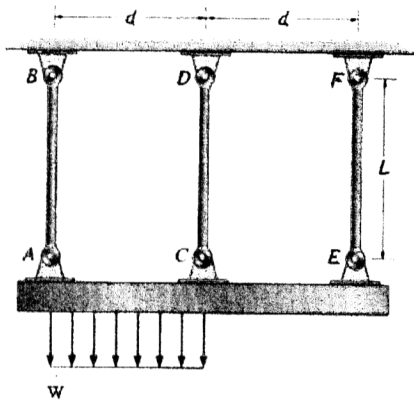

Fig. 1.
1. (20%) The three suspender bars are made of the same material and have equal cross-sectional areas A . Determine the force in each bar if the rigid beam ACE is subjected to the uniform distributed loading w (as shown in Fig. 1.)